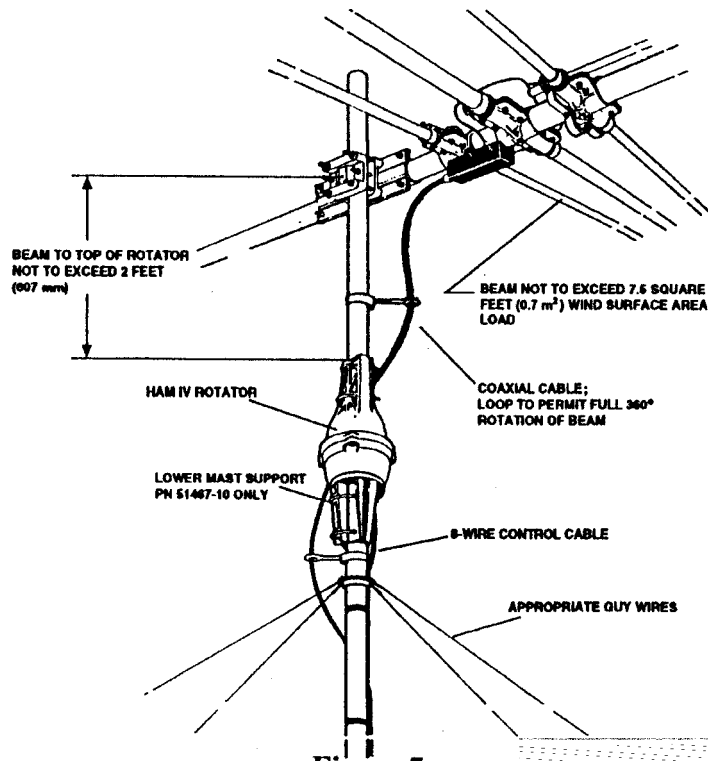

Figure 7
3. A telescoping or other type mast (see Figure 7) can also be used. This installation is similar to Number 2 above and requires the optional Heavy Duty Lower Mast Support Kit and must be derated to 10 square feet